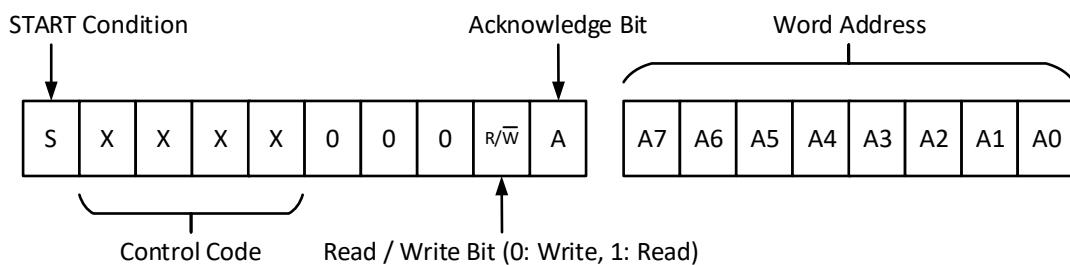

Figure 153. I²C Basic Command Structure
Each command to the I²C serial communications macrocell begins with a ‘START’ condition. The basic command structure of the I²C protocol is shown in Figure 153. After the ‘START’ condition (S), the I²C controller sends 7-bit target address followed by the RW bit. The SLG47001/03 allows multiple target addresses by programming the first four bits (‘Control Code’) of the 7-bit target address. Each bit in the ‘Control Code’ can be sourced independently from the I²C_SLA[3:0] (Reg[1467:1464]) register. When the I²C_SLA0_SEL (Reg[1468]) and the I²C_SLA1_SEL (Reg[1469]) registers are set to ‘1’, Bit0 and Bit1 of the ‘Control Code’ are defined by the logic levels of GPIO0 and GPIO2 pins respectively. This gives flexibility in the addressing with multiple devices on the same I²C bus. The RW bit selects whether a read (RW = 1) or write (RW = 0) command is requested. The RW bit will be followed by an ‘Acknowledge’ bit (ACK), which is sent by the target device to indicate successful communication of the first byte of data.